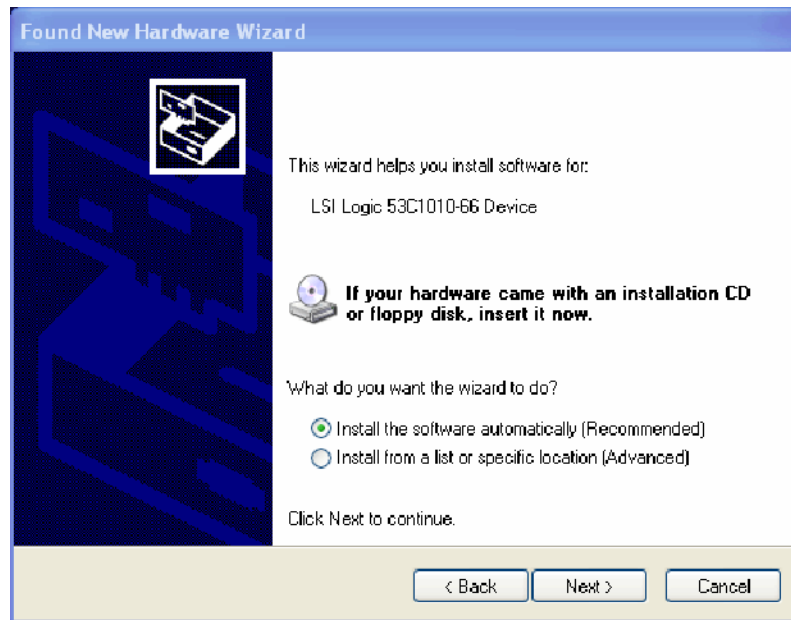

Figure 2: Found New Hardware Wizard page 2
3. On the second page of the wizard (see Figure 2), verify that the option **Install the software automatically (Recommended)** is enabled.